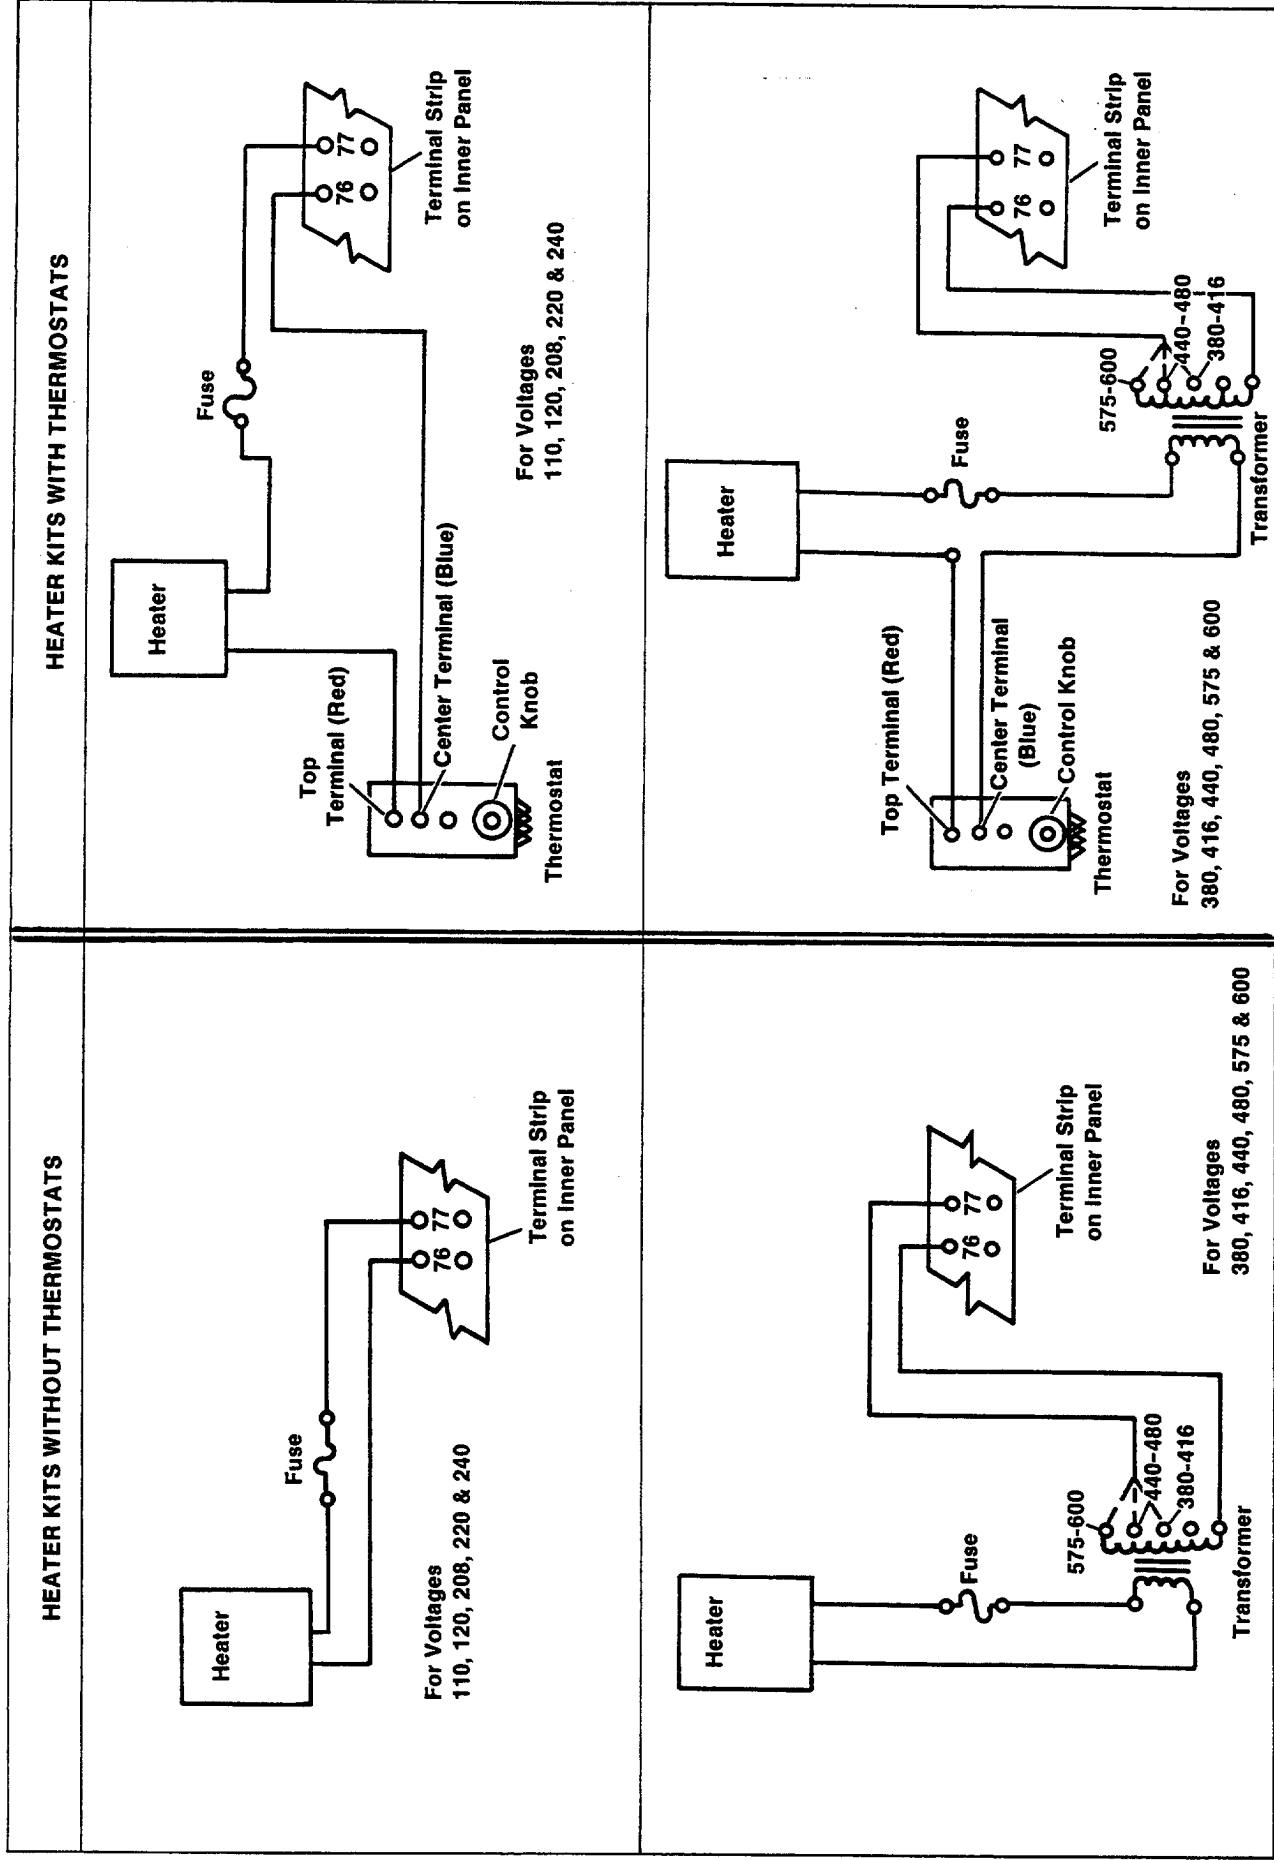

Figure 5. Wiring Diagrams
12. With the supplied leads and terminals, connect components using the appropriate wiring diagram, see Figure 5.